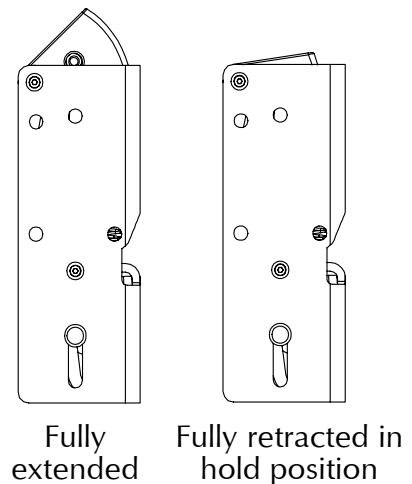

Figure 11-1
- 11.2. Set top latch in fully retracted (hold) position (Figure 11-1).